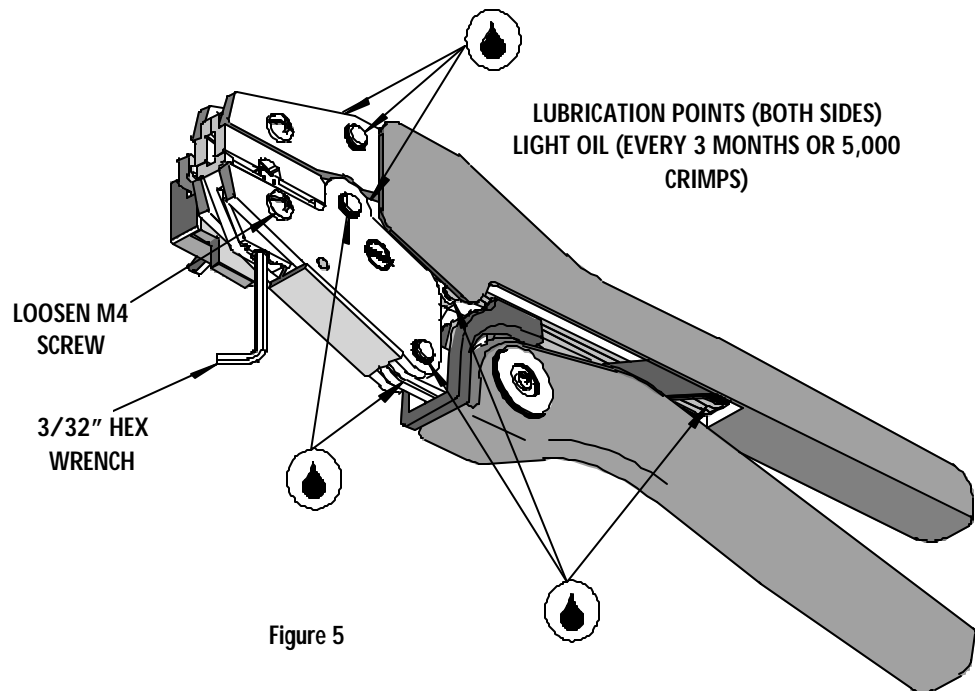

Figure 5
5. If the insulation part of the crimp needs to be adjusted, first loosen the M4 screw on the bottom tool jaw, then insert a 3/32 hex wrench (supplied) into the bottom of the lower die (See Figure 5). A clockwise (CW) rotation decreases insulation crimp while a counter-clockwise (CCW) rotation increases insulation crimp. After adjusting retighten the M4 screw.
64001-1400 (RHT-2100) was engineered for durability, but like any fine piece of equipment it needs cleaning and lubrication for a maximum service life of trouble-free crimping. A light oil, such as 30 weight automotive oil used at the oil points shown in Figure 5, every 5,000 crimps or 3 months will significantly enhance the tool life and ensure a stable calibration.